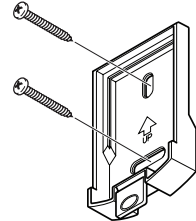

Figure 2
2. Place the mounting plate against the mounting surface and ensure the mounting plate is level. Mark the hole locations (see Figure 2). *Note:* The “UP” arrow must point upward.